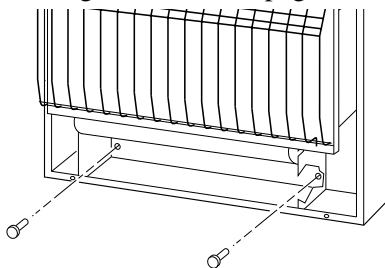

Figure 11 - Installing Bottom Mounting Screws
1. Locate two bottom mounting holes. These holes are near bottom on back panel of heater (see Figure 11).